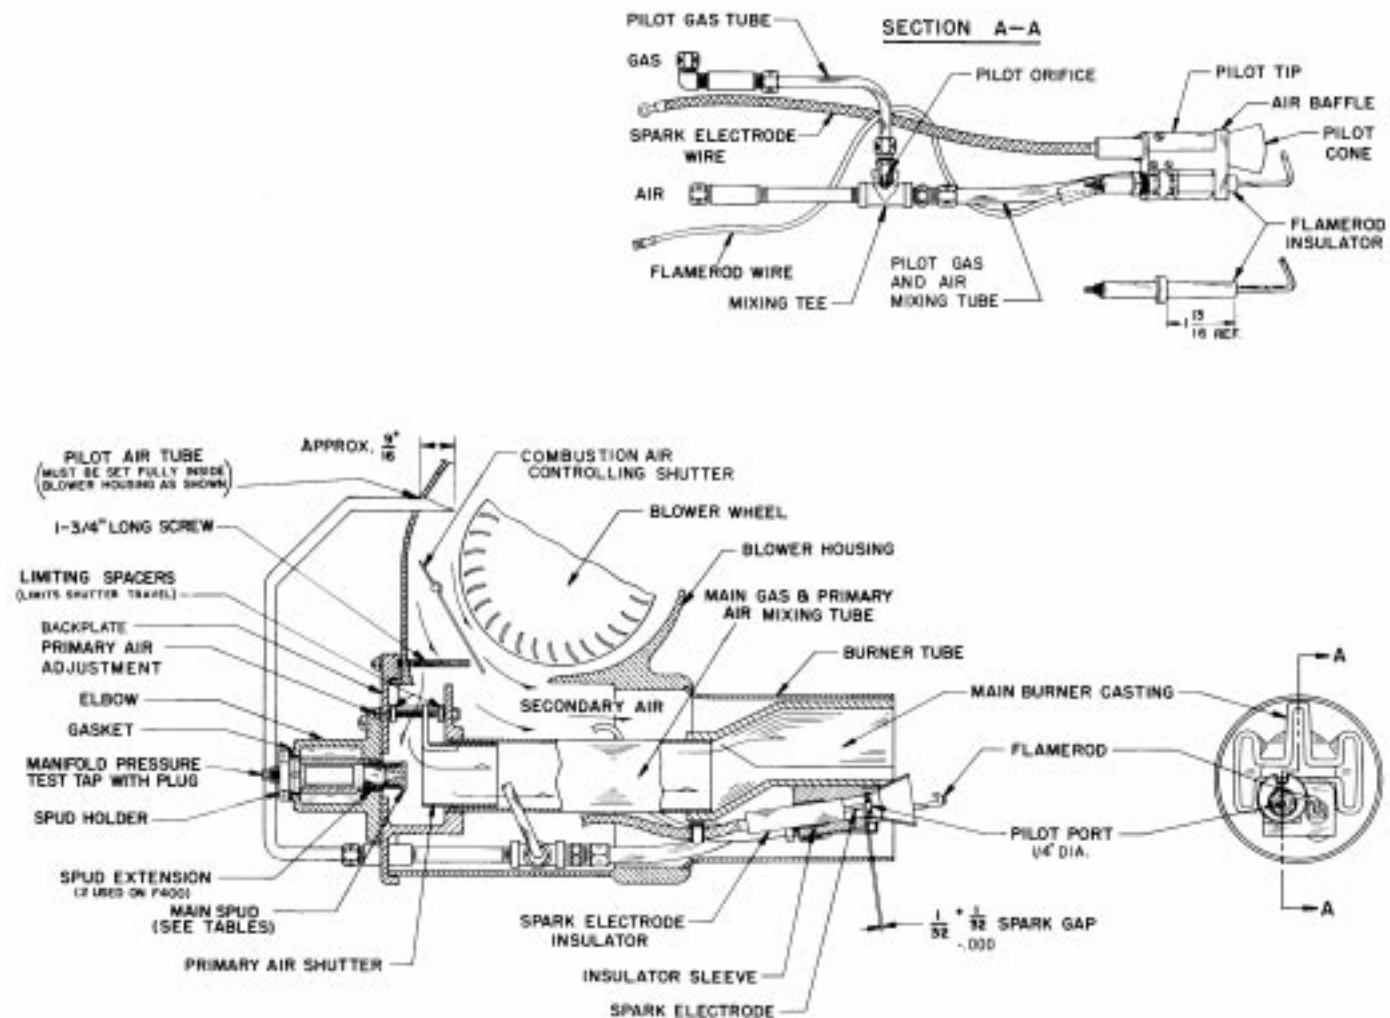

FIGURE 7 General Assembly
- The spark rod is located on the center line of the pilot and is positioned so the high tension voltage will arc to the inside of the center port of the retention plate (see Figure 7).
- The flame rod must be positioned as shown in Figure 7 so that the electronic control will detect a proper flame. Note that it is slightly above the centerline of the pilot.
- The pilot air tube must be kept free of kinks or inside obstructions and its inlet end must be positioned per Figure 7, otherwise air flow could be reduced sufficiently and adversely affect the pilot flame.
See Figure 7.